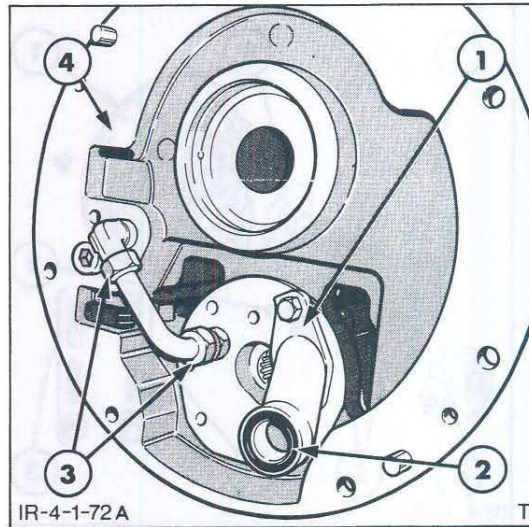

Figure 73
9. Inspect the oil distributor housing for cracks and check the valve bores for wear or scoring. Check the pressure pipes connections are tight and renew the suction pipe seal on assembly, Figure 73.